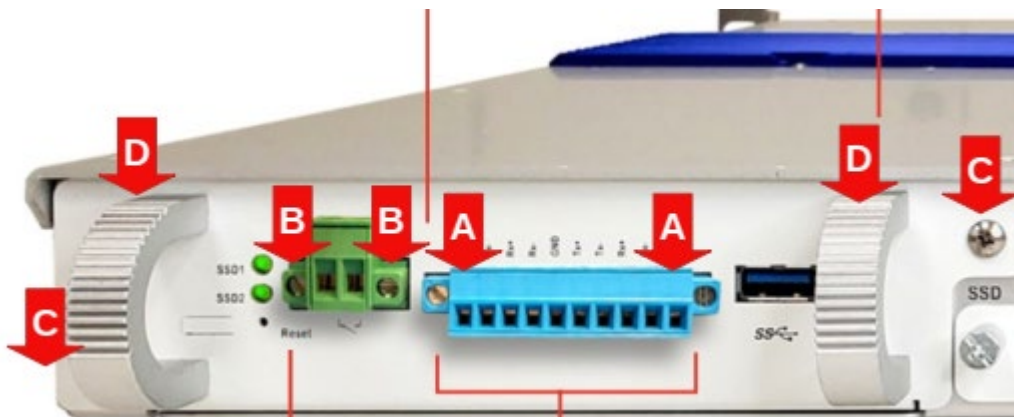

Figure 9-2 SSD Module
2. Use Phillips screwdriver and unscrew the connector's screws marked (A) on Figure 9-2. If you have wiring on this connector, unplug it.
3. Use Phillips screwdriver and unscrew the connector's screws marked (B) on Figure 9-2. If you have wiring on this connector, unplug it.
4. Use your fingers and loose screws marked (C) on Figure 9-2.
5. Grab bracket marked (D) and pull until the module is completely out.